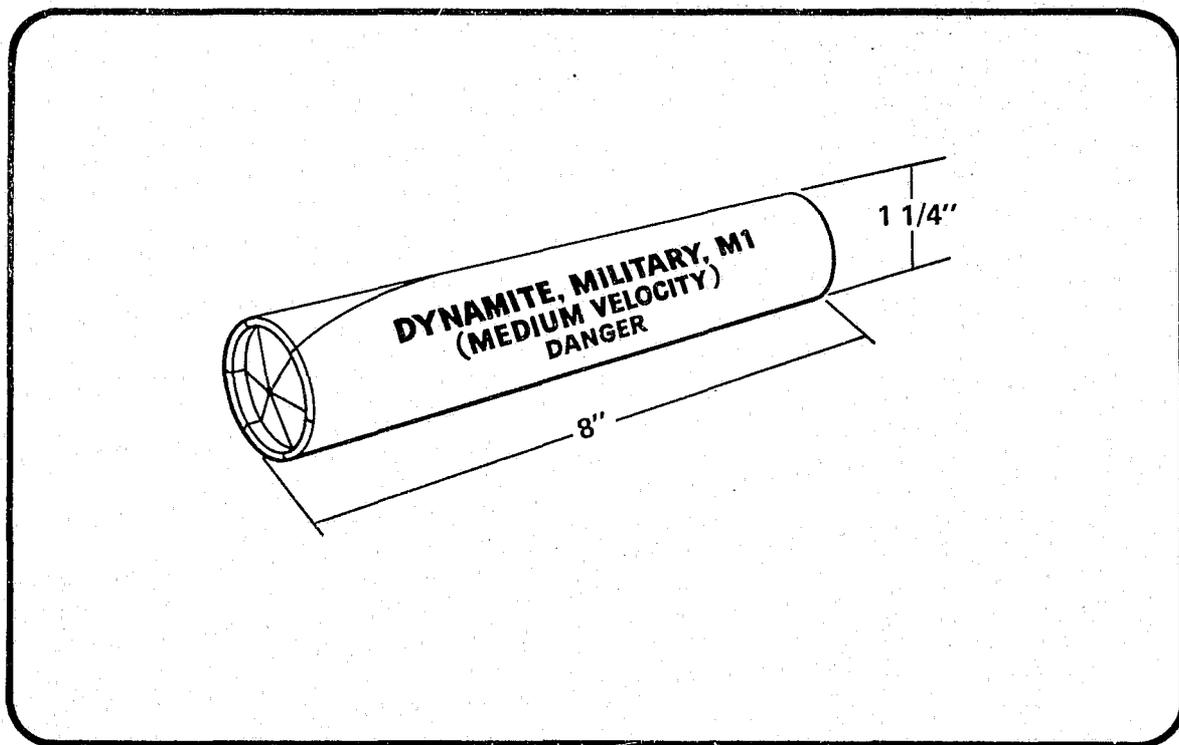

Figure 36
- **Military Dynamites.** Military dynamite is not a true dynamite in that it is manufactured of 75 percent RDX, 15 percent TNT, 5 percent SAE 10 motor oil, and 5 percent cornstarch. It is packaged in standard dynamite cartridges of colored wax paper and is marked either M1, M2, or M3 on the cartridge as illustrated in figure 36. This marking identifies a cartridge size difference only, since all military dynamite detonates at about 20,000 f.p.s.